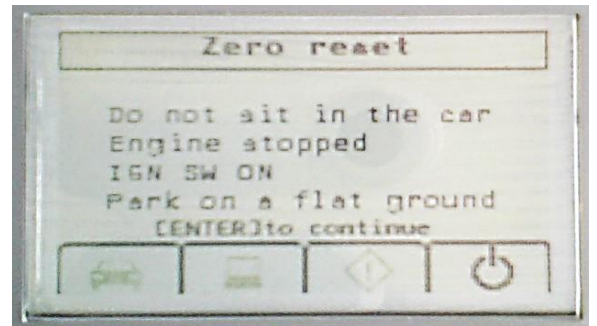

Figure A6
- The screen in Figure A6 (next page) will display when system call is complete.
- If system call does not complete and the screen in Figure A6 does not display, the vehicle may not apply to this quality action, or the incorrect action is being performed.
7. When this screen displays (Figure A6), go to the next step for zero point reset preparation.